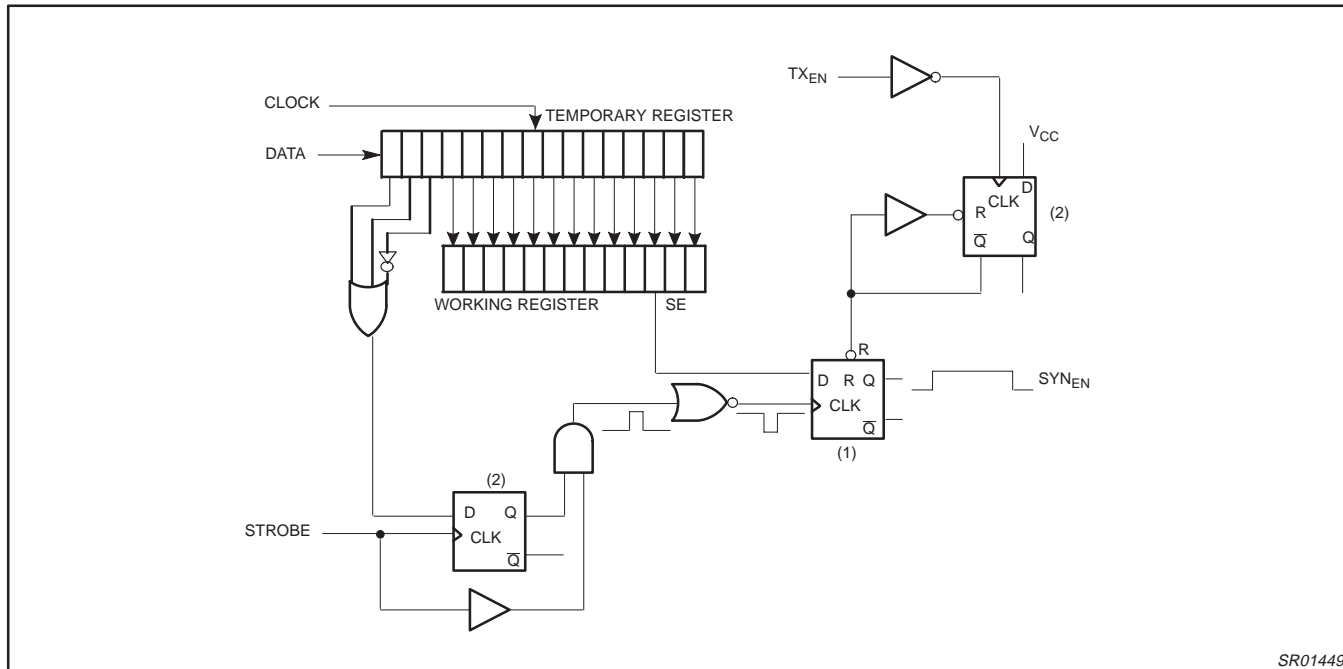

Figure 6. Transmit Offset Synthesizer Reset Circuit
In Figure 6, the falling edge of the strobe and address, inverted, toggles the Q output of flip-flop (1) to a '1' state, enabling the phase detector, VCO, divide by M, TX_{IF} buffer and SSB up-converter. Approximately 80µs after the synthesizer is locked, the TX_{EN} signal (enabled = 1) turns on the modulator and variable gain amplifier. The rising edge of TX_{EN} has no effect on SYN_{EN}, however, the falling (rising inverted) edge toggles the Q̄ output of D flip-flop (2) to a '0' state. This disables the synthesizer, modulator and variable gain amplifier. To insure that slow edges on TX_{EN} do not cause improper operation, the TX_{EN} is a Schmitt trigger design.